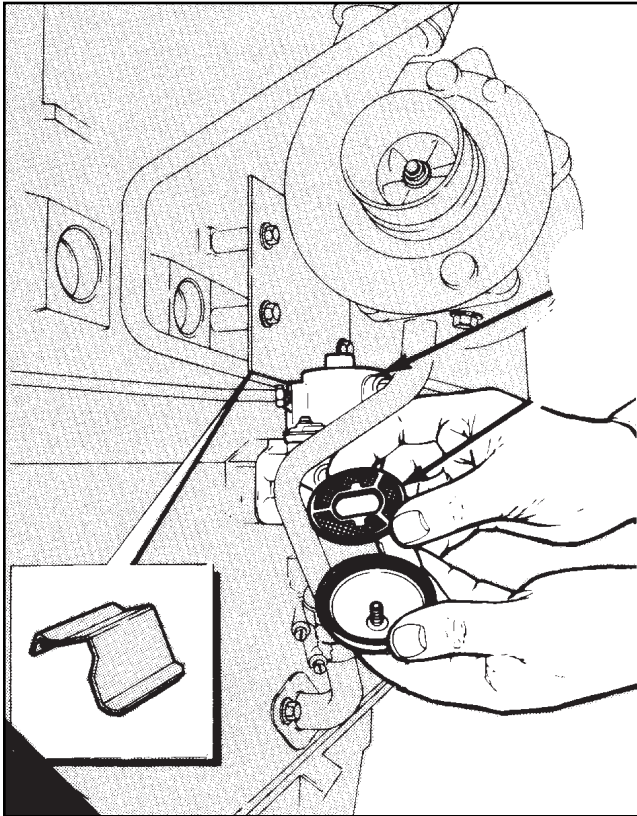

Figure 3 - Screen Strainer of the Fuel Lift Pump
- 1.) Remove the cover and seal from the top of the lift pump. (Fig. 3) Remove screen strainer. On 6T and 6TW engines it will be necessary to remove the small turbocharger heat shield which is mounted above the pump.